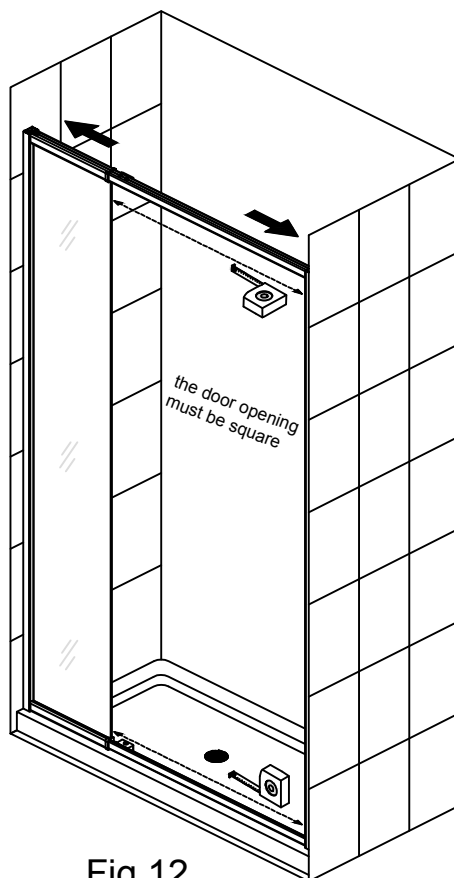

Fig 12
1. Check and adjust the door opening for square and make certain that the entire assembly is tight to the threshold. (Fig 12)